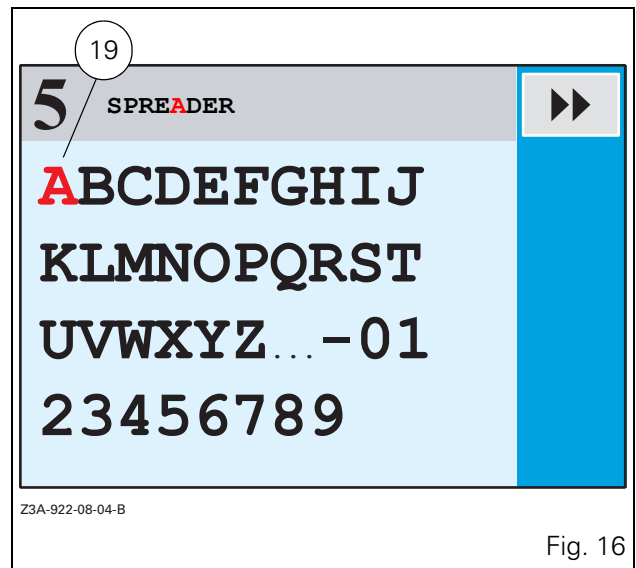

Fig. 16
- Press the encoder. The first letter of the alphabet is displayed in red (19 Fig. 16).